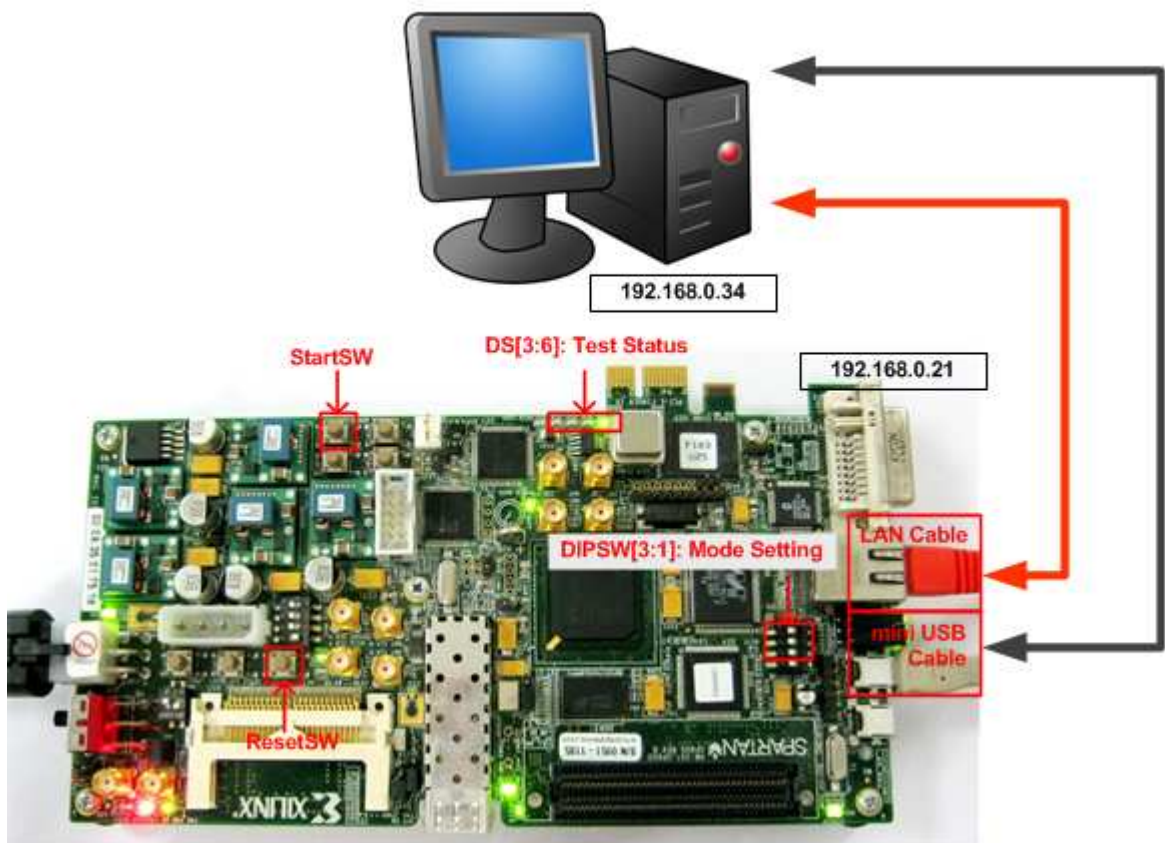

Figure 1 TOE2-IP Send Demo Environment Setup
As shown in Figure 1, to run TOE2-IP send demo, please prepare
- Press StartSW as shown in Figure 1 (SW8) to initialize parameter in system, and then DS3 will turn on, as shown in Figure 6 and Figure 7 following DIPSW[1] setting.